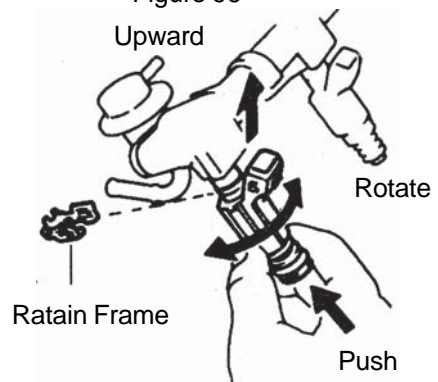

Figure 98
- (b) Install 4 injectors to fuel delivery pipe by rotating them left and right. See (Figure 98).